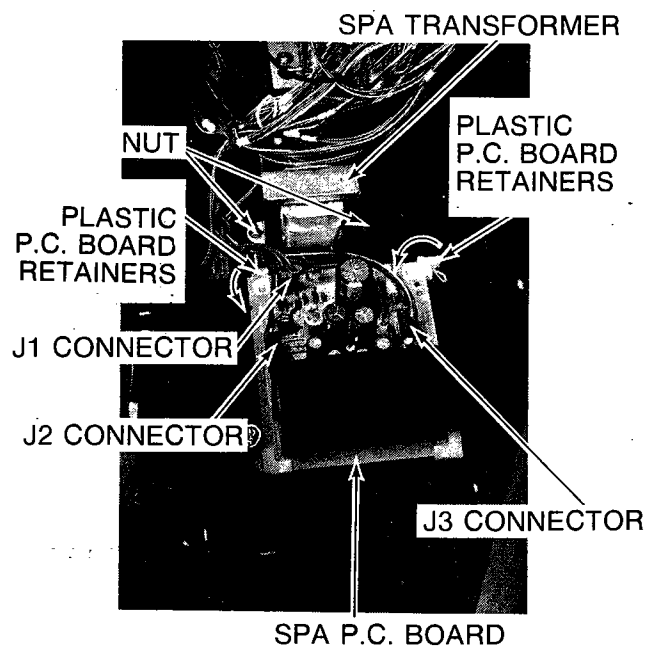

Fig. 14d — (SPA) Stereo Amp Board
2. Turn the two plastic retainers as shown. (Fig. 14d).